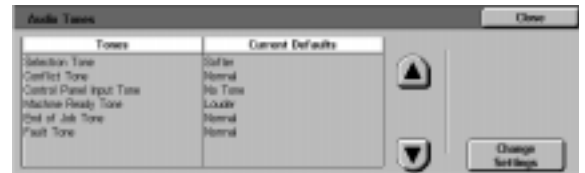

Figure 39: Audio Tones screen
- 1 On the Tools screen, touch the **Audio Tones** icon to display the Audio Tones screen, as illustrated in Figure 39.